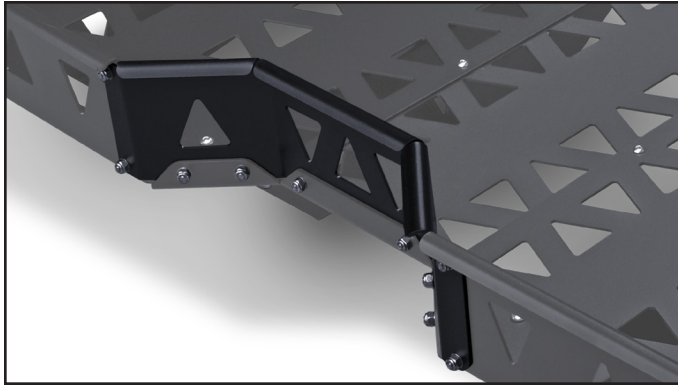

Figure 3.
- 7. Install the Bridge End Cap.** The Bridge End Cap ties all of the components together as shown in Figure 3. It installed on the inside of the flanges on the Bridge Section, but outside of the outer walls of the two Cargo Rack sections. It may be necessary to re-loosen some of the Bridge Section bolts in order to slip the End Cap into place. Use the remaining #10-32 X 1/2 SS BUTTON HEAD CAP SCREWS with #10 SS FLAT WASHERS and #10-32 SS NYLON INSERT LOCK NUTS to fasten the End Cap to each of its adjacent components. Continue to orient the hardware so that the round button heads are on the interior of the Cargo Rack, with the washer and lock nut on the exterior.